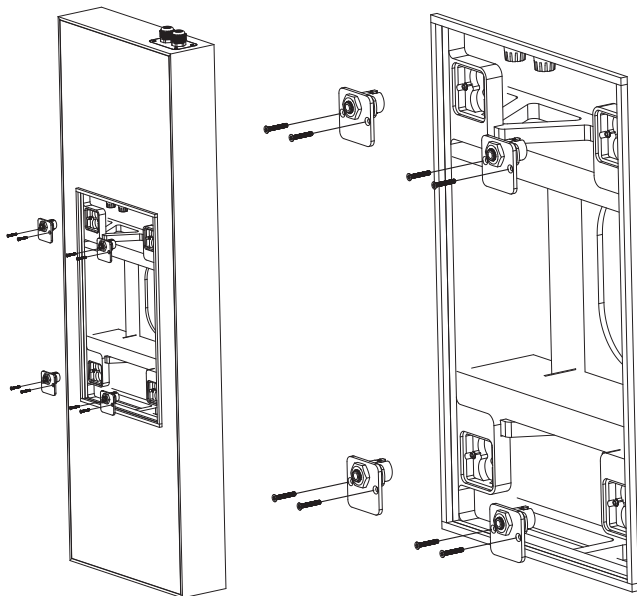

Fig. 2b Re-orient the four brackets if the BACK CAN is installed with the cable entry at the top
6. Note: If you install the back can with the cable entry at the top, then the four small brackets that accept the speaker assembly screws, need to be rotated through 180 degrees. Undo the 2 small screws, and re-orient each small bracket as shown (Fig. 2b).